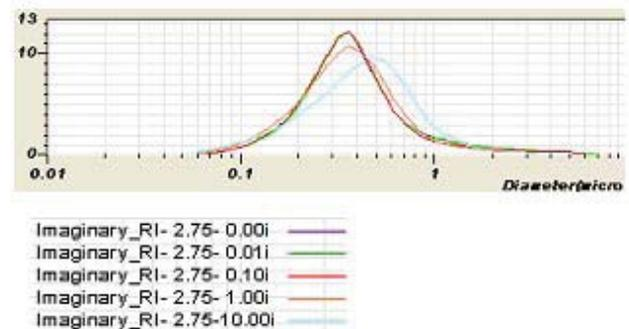
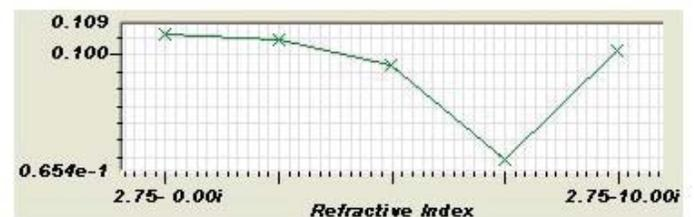

Figure 1: Calculated size distributions for varying imaginary RI component
Figure 2: R parameter (Y axis) vs. RI
The selection of refractive index is an important parameter when using laser diffraction (1,2). The real refractive index (RI) of this form of  $\text{TiO}_2$  is known to be 2.75. The optimum imaginary RI component was selected using the calculation optimization wizard within the Method Expert software (ref). The real component was fixed at 2.75 while the imaginary component was varied from 0, 0.01, 0.1, 1.0, and 10. The wizard then calculated the size distribution results and R parameter, a value that expresses the error in the conversion from raw scattered light data to the final result. A minimum R parameter (3) value indicates the optimum choice for the imaginary RI component. The results from the calculation optimization wizard are shown in Figure 1 (size distribution results) and Figure 2 (R parameter vs. imaginary RI value).